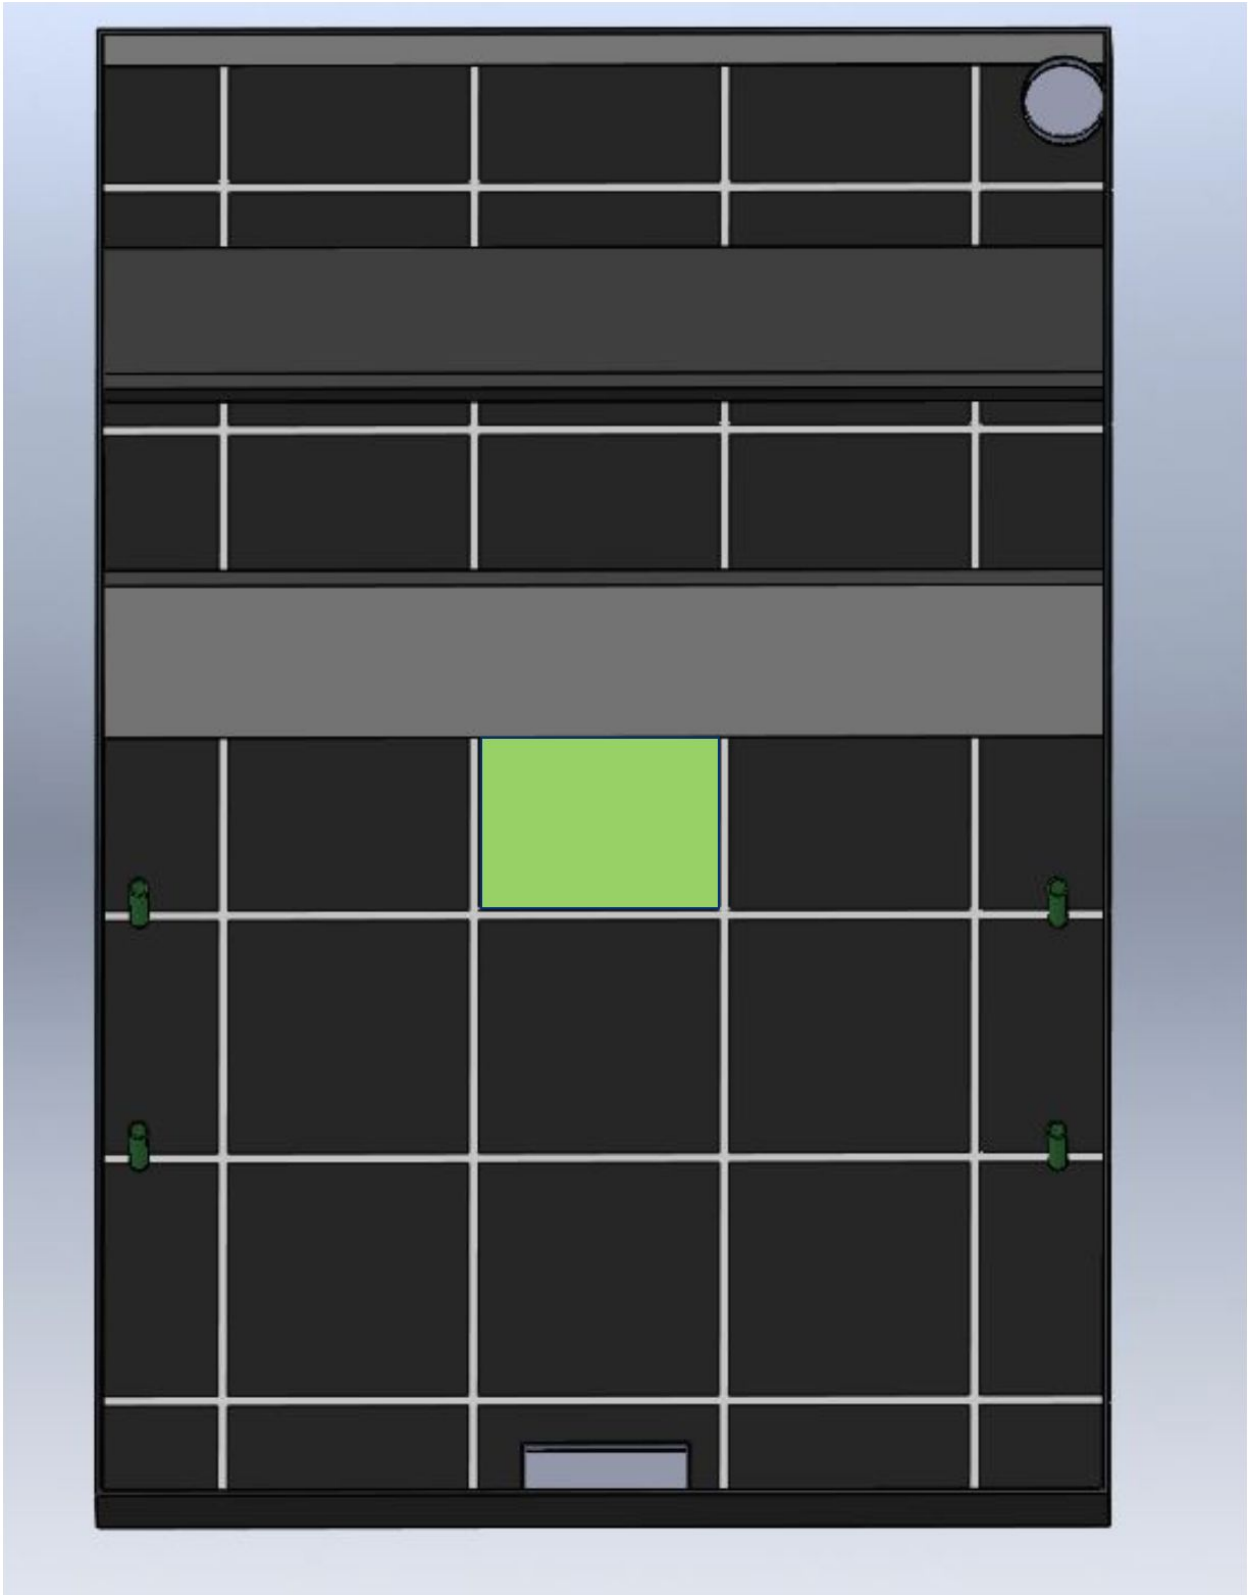

Figure 3: Individual playing field, with guidelines and starting region
- The floor of the playing field will be a dark blue carpet. A grid of tape will be laid down as guiding lines. The tape will be 1" wide white tape. The lines of tape will be laid in an on-center grid, with lines spaced 24" inches apart. The lines will start 12" from the wall. Refer to Figure 3 for clarification.
- The field will contain a starting box located in the center from where each robot will begin a match with the robot facing directly towards the water well. The location of the starting box is shown in Figure 3 as a central grid region, and constitutes a space of slightly less than 24" x 24".
- From the perspective of standing in the well looking towards the opposite side of the field, the right side of the field will contain a set of two salinity remediation material dispensers, dispensing ping pong balls valued at two (2) different values of S/cm . (for example one dispenser will provide 10 S/cm units of remediating material and the other will provide 100 S/cm units of remediating material) Each dispenser will be located on a guiding line. (Refer to Figure 3 for the locations of the dispensers).
- From the perspective of standing in the well looking towards the opposite side of the field, the left side of the field will contain a set of two turbidity remediation material dispensers, dispensing ping pong balls valued at two different values in NTU (for example one dispenser will provide 1NTU of remediating material and the other will provide 10NTU of remediating material). Each dispenser will be located on a guiding line. (Refer to Figure 3 for the locations of the dispenser values). The ping pong balls will be contained in a 1½" PVC pipe. The pipes will contain 12 ping pong balls each, for a total of 48 ping pong balls across all 4 dispensers.